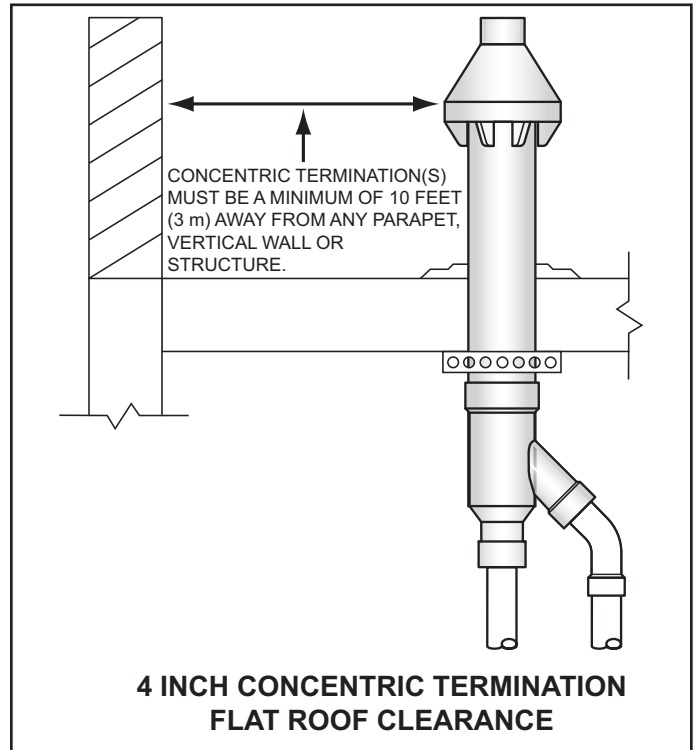
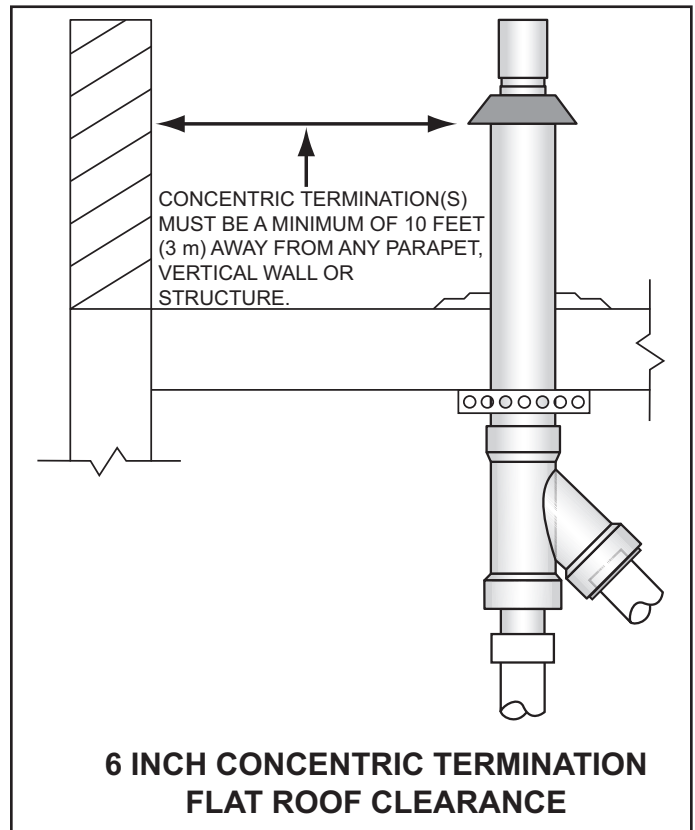

Figure 23
Figure 24
4. When installing a concentric termination vertically through a flat roof, the termination's vent cap must be a minimum of 10 feet (3 m) away from any parapet, vertical wall or structure as shown in Figure 23 and Figure 24.